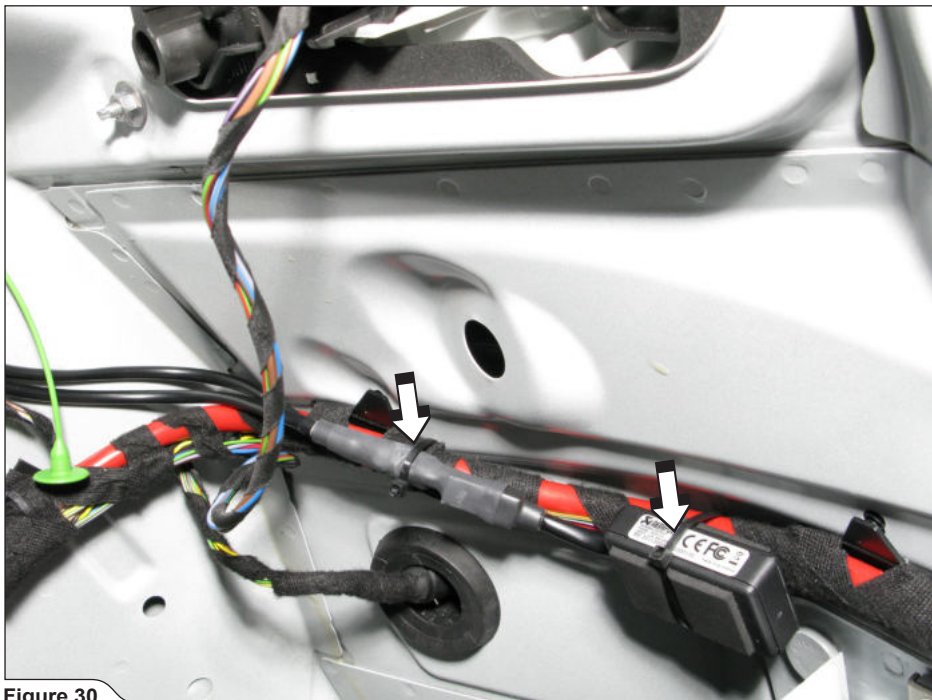

Figure 30
21. Connect the transmitter to the wiring harness and protect the connection using heat shrinkable insulation; secure the transmitter and wiring with tie wraps (Figure 30).